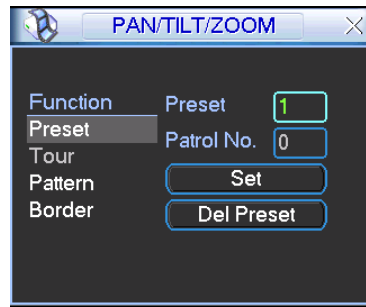
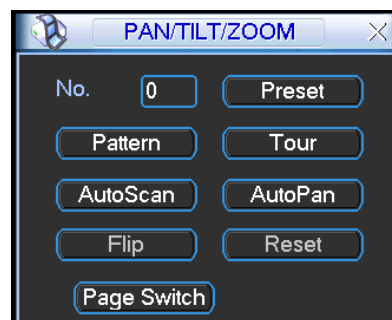
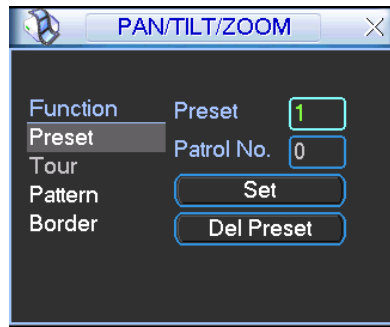

Figure 4-36
Figure 4-37
Figure 4-38
In \_Figure 4-33, please click the “set” button. The interface is shown as below. See Figure 4-36. Here you can set the following items:
In \_Figure 4-33, click page switch button, the interface is shown as in Figure 4-37.
- The following setups are usually operated in the \_Figure 4-33, Figure 4-36 and Figure 4-37.
In Figure 4-36, click preset button and input preset number. The interface is shown as in Figure 4-38
In Figure 4-37, please input preset number in the No. blank, and click preset button.
In Figure 4-36, please click patrol button. The interface is shown as in Figure 4-39. Input preset number and add this preset to a patrol (tour). For each patrol (tour), you can input max 80 presets.
In Figure 4-38 click pattern button and then click “begin” button. The interface is shown as in Figure 4-40. Then you can go to Figure 4-33 to modify zoom, focus, and iris.
In Figure 4-37, input mode value in the No. blank, and click pattern button.
In Figure 4-36, click border button. The interface is shown as in Figure 4-41. Please go to Figure 4-33, use direction arrows to select camera left limit
In Figure 4-37, click "Auto Scan" button, the system begins auto scan. Correspondingly, the auto scan button becomes Stop button. Click stop button to terminate scan operation.
In Figure 4-37, click page switch button, you can see an interface is shown as below. See Figure 4-42. Here you can set auxiliary function. The aux value has relation ship with the Aux button of the decoder.